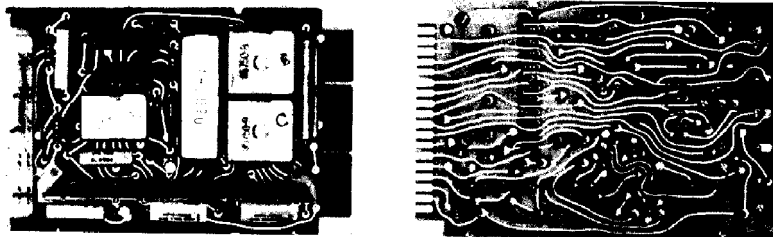

FIGURE 6. K-400D Key Telephone Unit; Component Side (left) and Printed Circuit Side
- 11.01 The K400(D)962 KTU is mechanically and electrically interchangeable with K400B type units in the K501 and K512 series KSU's. Operationally, the K400D KTU's are fully compatible with K400B KTU's in any 1A2 system installation. (See Figures 6 through 12.) Ring up and hold functions are accomplished by the use of a split winding dry-reed relay. The ringing detector, a combined grounded metallic circuit is not normally subject to false ring of induced foreign potentials. Ringing bridge impedance is approximately equal to one high impedance ringer. A maximum of three ringers may be connected in combination across the line ahead of or behind the K400D KTU. A non A lead type station, dialing ahead of the line circuit, could ring up the circuit falsely if foreign